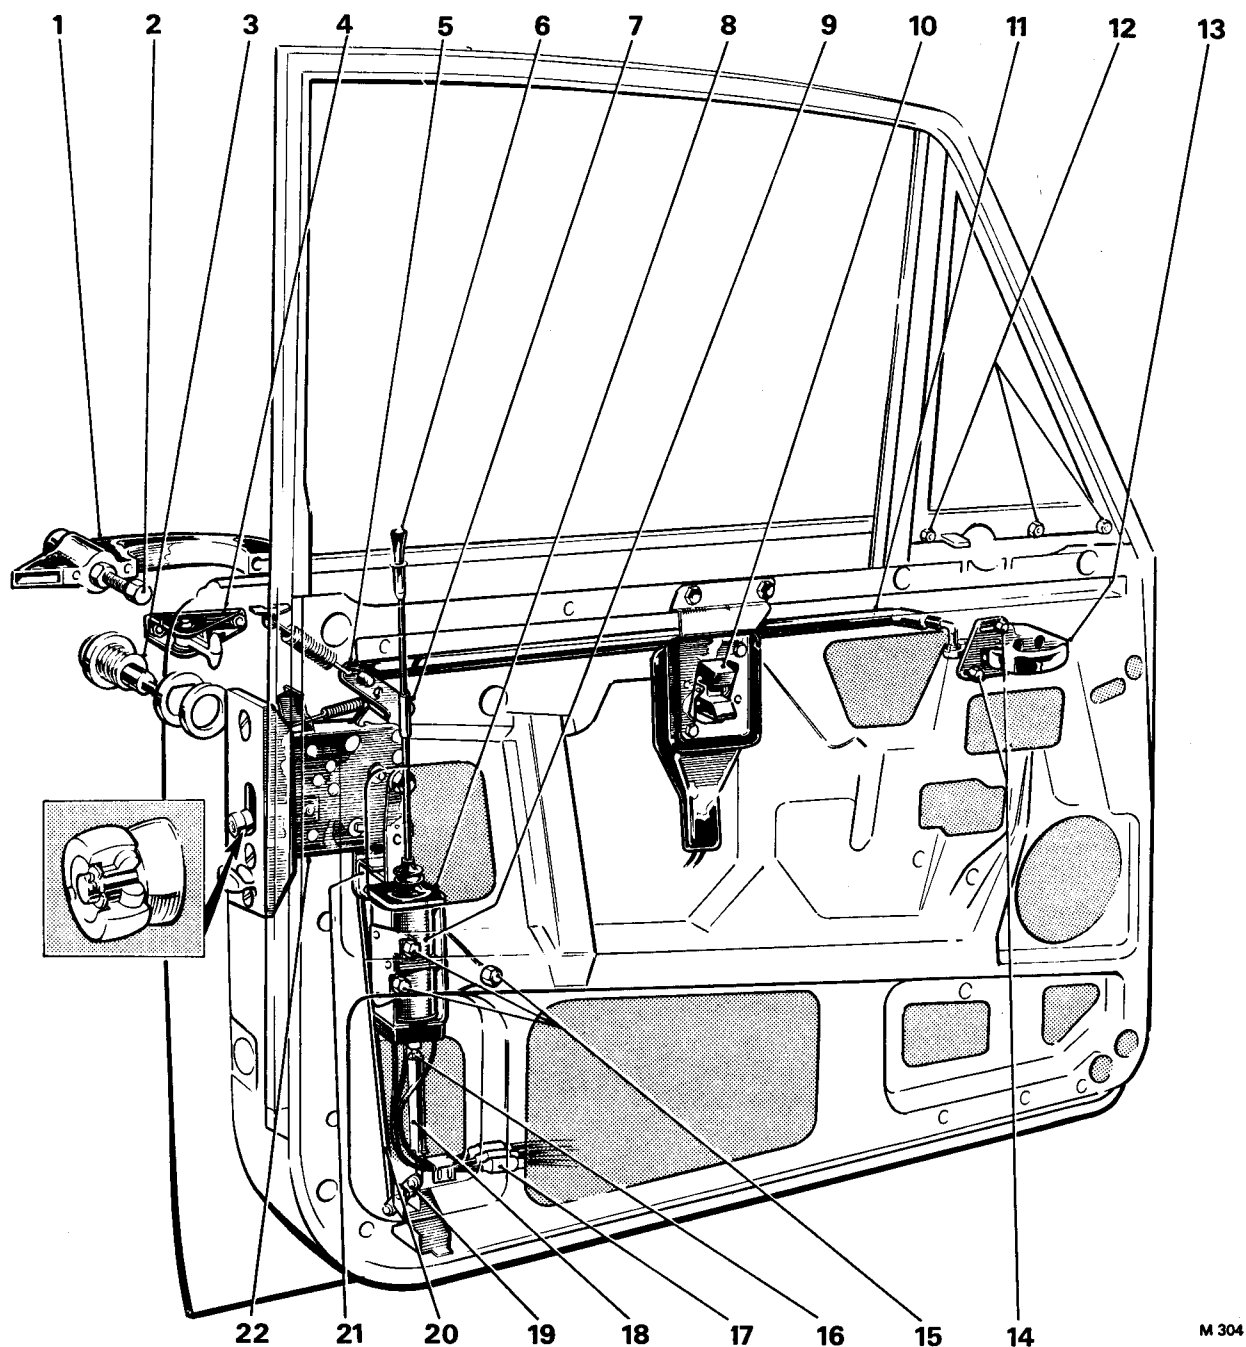

FIG. S11 FRONT DOOR LOCKING MECHANISM (4-Door Saloon and Long Wheelbase Cars after Car Serial Number 9000)
12. To remove the solenoid and mounting bracket proceed as follows (*see Fig. S11*).
Note that on earlier cars, the solenoid is protected by a polythene tube with the ends taped together; on later cars a rubber dust cover is fitted to the solenoid (*see Fig. S11, item 8*).